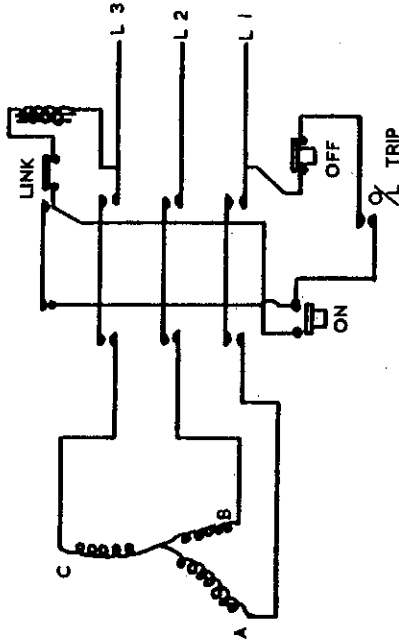

FIG.2
4. Connect the line leads to the appropriate terminals. See Fig. 2 for three phase supply.